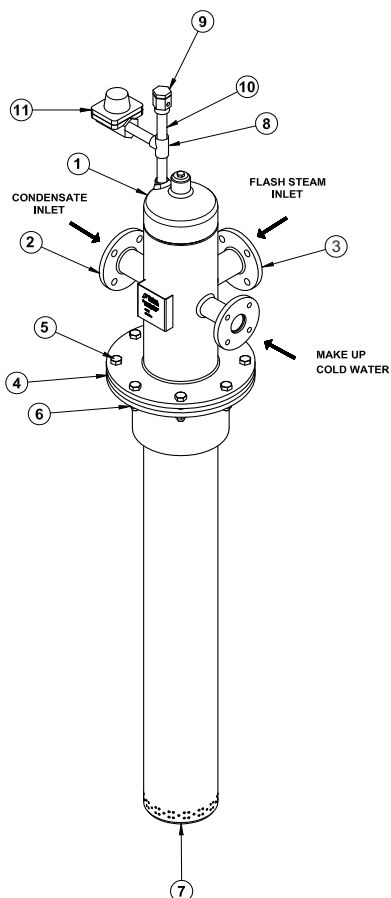

Figure 1: Forbes Marshall Deaerator Head
5. **Installation Guidelines: [Refer figure 1]**